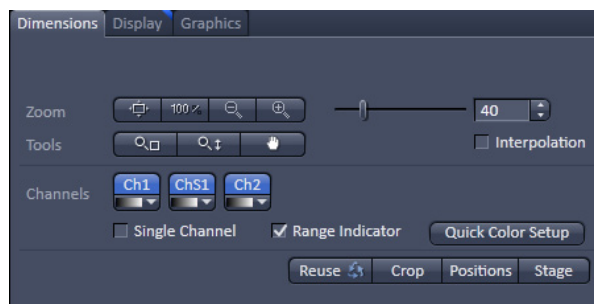

Fig. 24 View Dimensions Control Block
- In the **View – Dimensions** View Option Control Block, activate the **Range indicator** check box (Fig. 24).